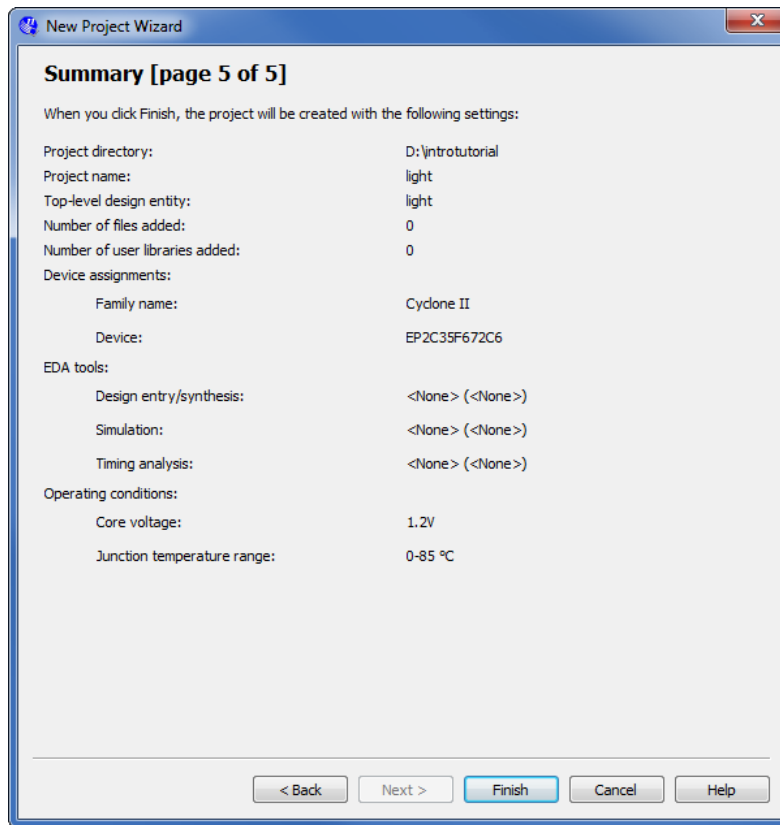
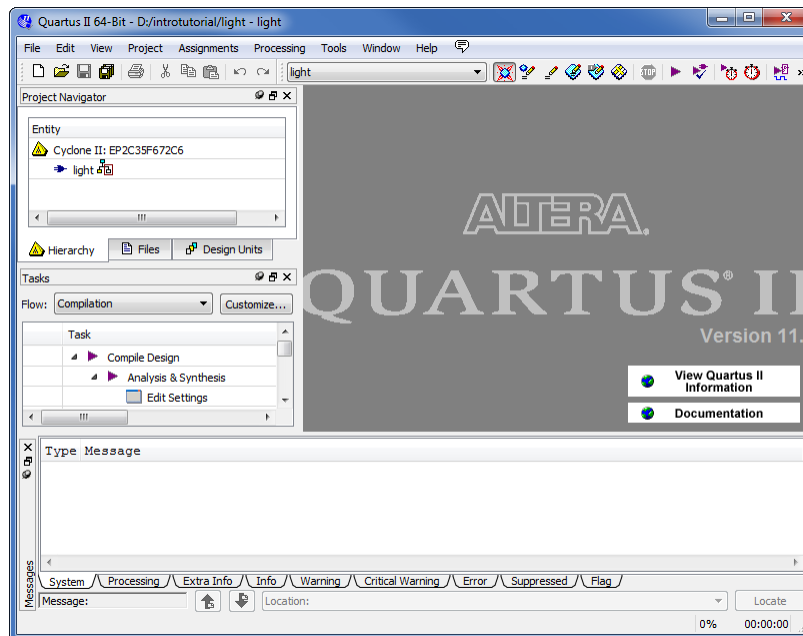

Figure 9. Summary of project settings.
Figure 10. The Quartus II display for a created project.
6. A summary of the chosen settings appears in the screen shown in Figure 9. Press **Finish**, which returns to the main Quartus II window, but with *light* specified as the new project, in the display title bar, as indicated in Figure 10.